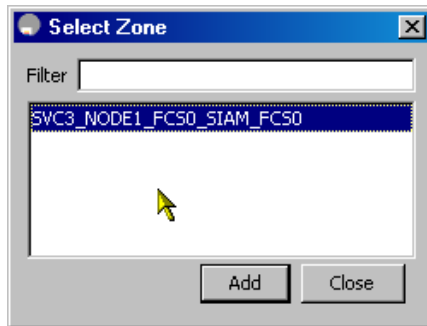

Figure 6-67 Selecting the zoneset members
3. Select the zones to be members of the zoneset and click **Add**, as shown in Figure 6-67.